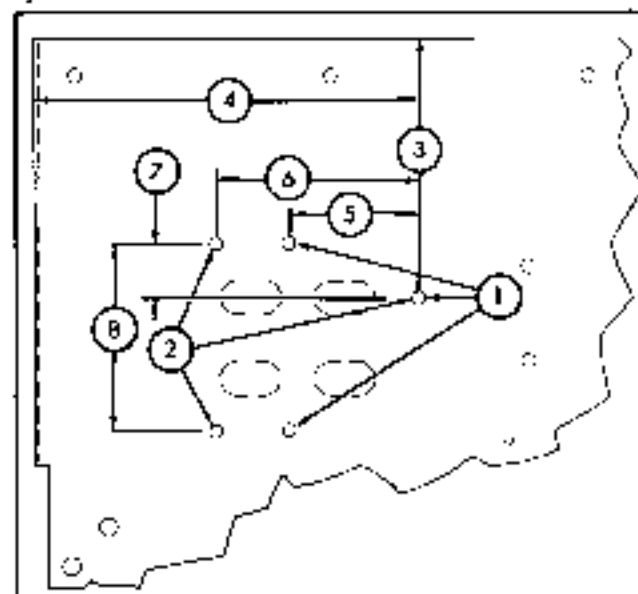

Fig. 149. Valve mounting holes
b. Remove left hand knock-out plugs in cowl when installing a single spool valve and left hand hose reel (Fig. 149). Remove all four plugs when installing a double spool valve and two reels.
c. Three new 13/32 inch holes must be drilled in cowl for mounting auxiliary valve. Fig. 149 shows dimensions for locating the mounting holes for single and double spool valves.